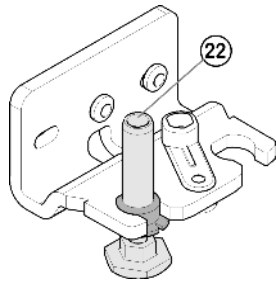

Fig. 6
- ▶ Tip the appliance back a little again and re-insert the bearing pin Fig. 6 (22). The notch has to point forwards.